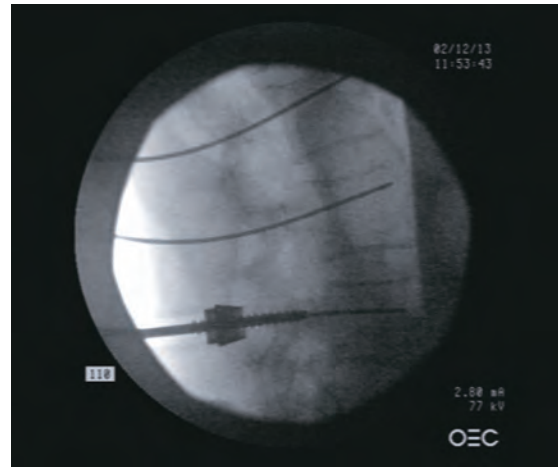

Figure 7
- Turn the handle clockwise to prepare the pedicle until the tap has reached the appropriate depth for the patient (Figure 7).